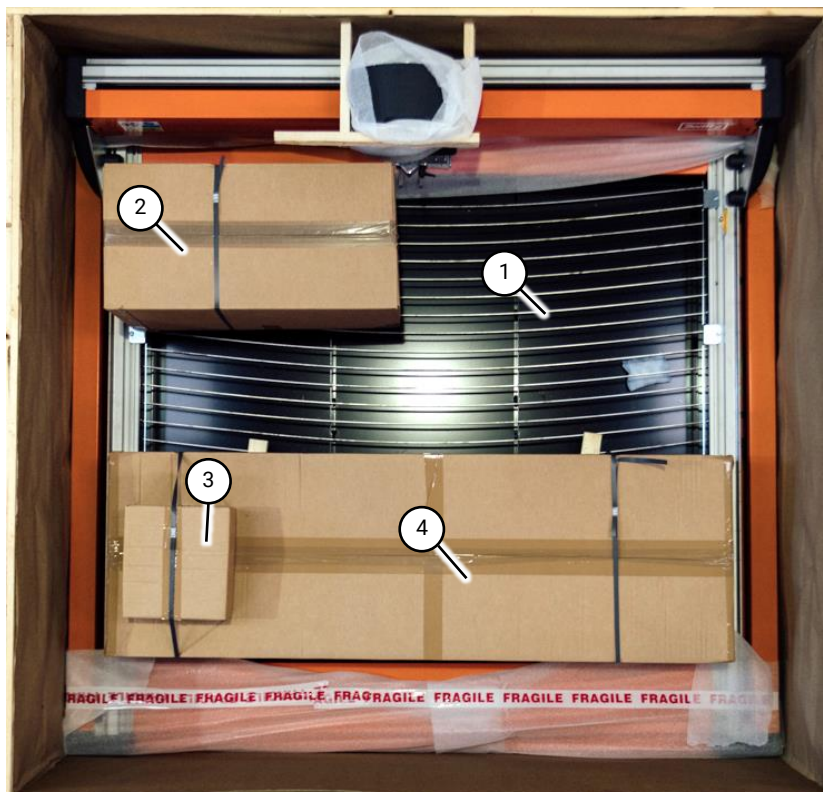

Fig 5 Contenu de la caisse
- 1.1 Machine Swifty 1250 (44) (Fig 5 (1))
- 1.2 Boîtier de Commande (Fig 5 (2))
- 1.3 Accessoires (Fig 5 (3))
- 1.4 Boîtier de Support (Fig 5 (4))